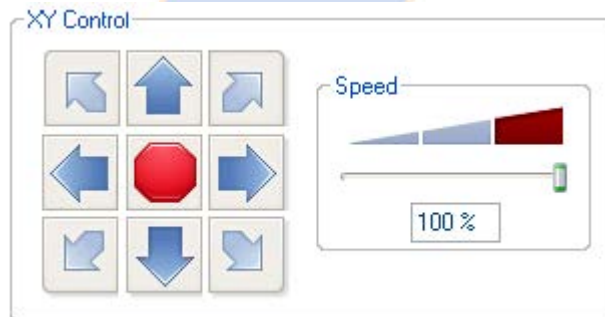

Figure 16. Stage movement direction and speed controls.
- b) Use the stage direction controls (Figure 16) to move the sample around until the desired imaging area is centered under the crosshairs.